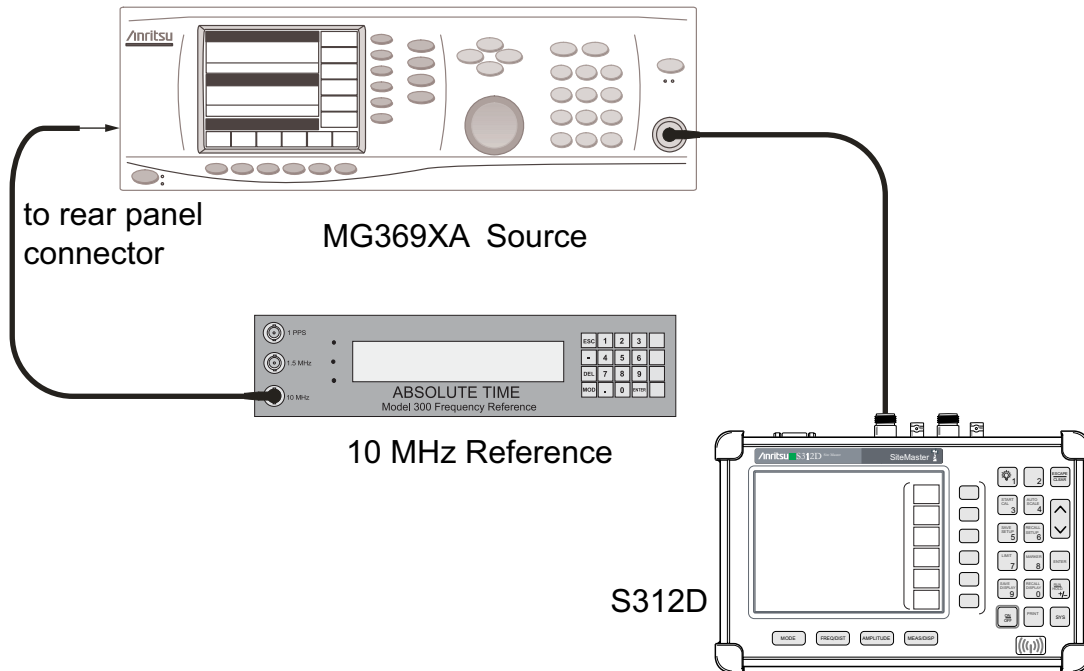

Figure 2-4. Spectrum Analyzer Frequency Accuracy Test Setup
1. Connect the output of the Synthesized Signal Generator to the Site Master RF Input. (Refer to Figure 2-4.)
1. Connect the 10 MHz reference source to the Synthesized Signal Generator and the Ext Freq Ref input of the Site Master. (Refer to Figure 2-4.)